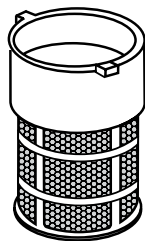

Figure 20. Fuel Strainer
3. Next, remove, inspect and clean the fuel strainer (Figure 20) with solvent.